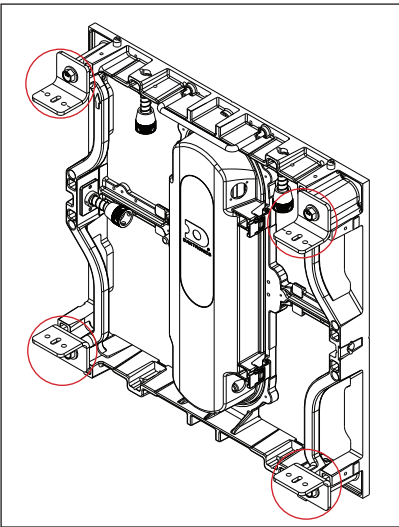

Figure 1: First Row Panel Angles
- a. Attach a panel angle in each corner of the display panels for the first row. Refer to **Figure 1**. Use short panel angles (HS-4196773) in the bottom corners and short or tall (HS-4198232) panel angles in the top corners. If anchor location 1A was used for the second row of horizontal wall angles, use short panel angles in the top corners. If anchor location 1B was used, use tall panel angles. Center each panel angle in its slotted hole and use a bolt (HC-4207944) to attach the panel angle to the panel. Tighten the bolt with a 15 mm socket.